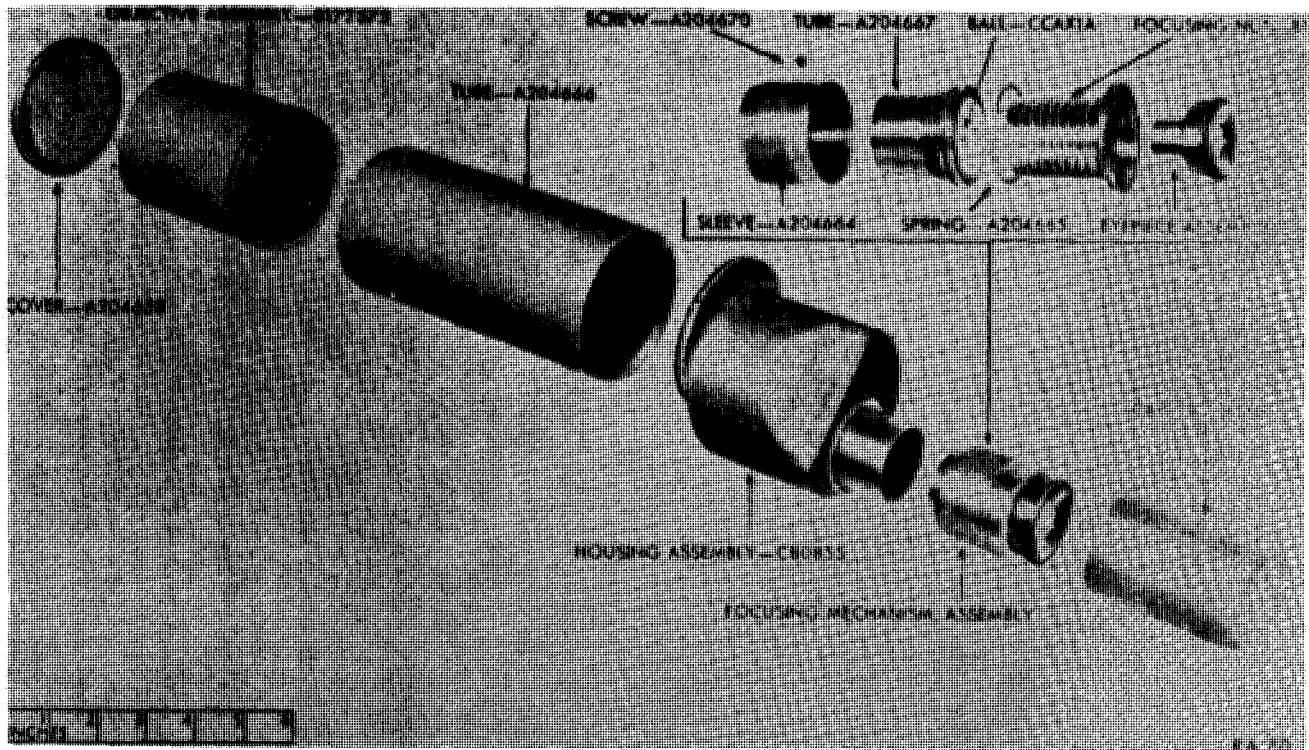
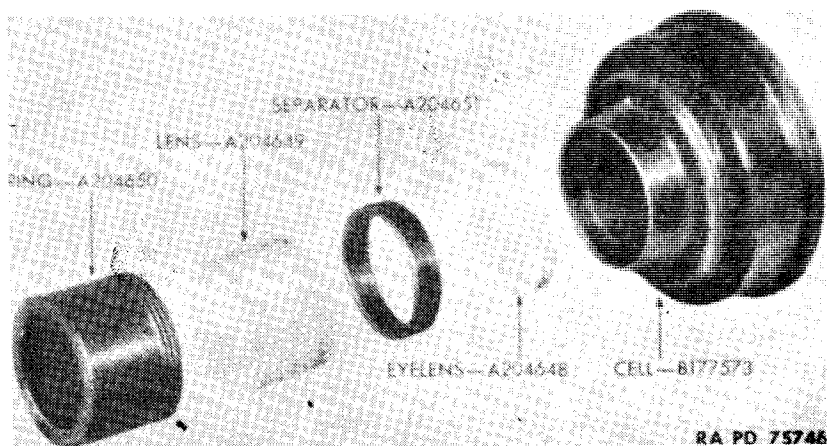
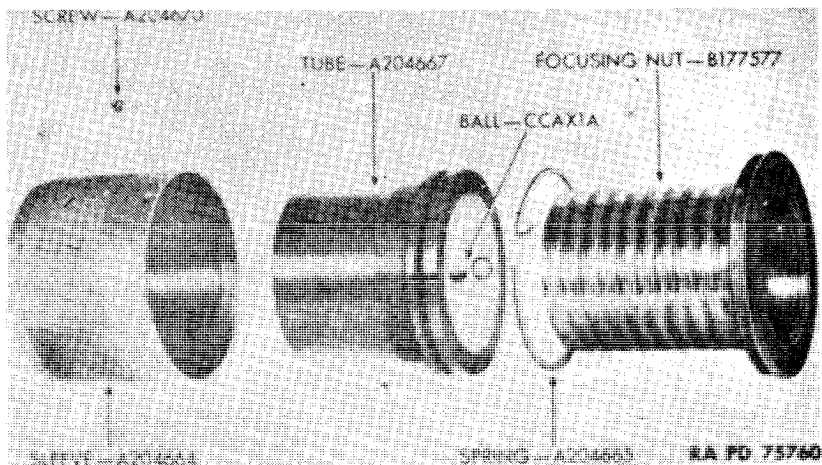
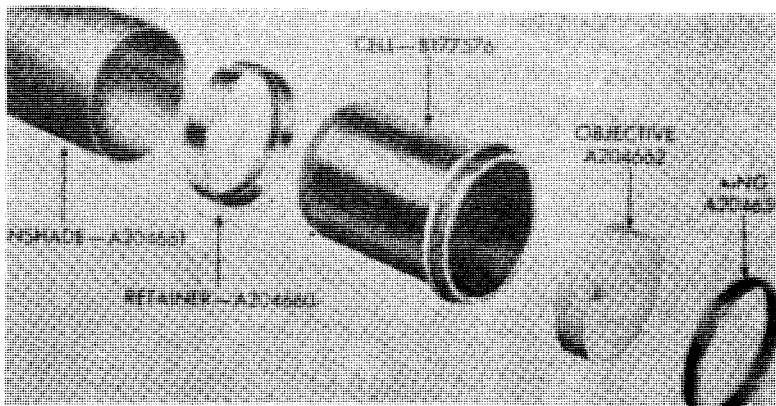

Figure 8—Observation Telescope M48—Partially Disassembled
Figure 9 - Observation Telescope M48-Eyepiece Assembly Disassembled
Figure 10 - Observation Telescope M48-Focusing Mechanism Assembly Partially Disassembled
Figure 13-Observation Telescope M48-Objective Assembly Disassembled
(1) Remove the eyepiece cover cap (fig. 8). Carefully unscrew the eyepiece assembly (fig. 8) and wrap it in clean tissue paper.
(2) Unscrew the focusing nut locking screw A204670 (fig. 8). Unscrew the eyepiece focusing nut sleeve A204664 (fig. 10) from the focusing nut. Unscrew the focusing nut from the eyepiece focusing nut tube A204667. Remove the ball and spring from its recess.
(3) Unscrew the focusing tube (fig. 8) from the prism housing. Slide off the focusing sleeve.
(1) Unscrew the retaining ring (fig. 9). See figure 8 for components of Observation Telescope M48.
(2) Hold the eyepiece assembly, with the field lens down, and gently tap around the edges of the cell to release the field lens. Repeat the procedure to free the eyelens, tapping more vigorously if necessary. NOTE: Be careful to hold the eyepiece assembly over a soft pad or piece of folded tissue when performing this operation. Do not permit the bare finger or table to come in contact with the polished surfaces of the lens. After removal, wrap the lens in lens tissue paper and store in a safe place.
(1) Remove focusing mechanism with eyepiece assembly from prism housing assembly (fig. 8).
(2) Unscrew the prism housing assembly (fig. 8) from the body tube.
(1) Unscrew the retainer (fig. 13) and remove the sunshade which slides over the objective cell.
(2) Unscrew the objective cell (fig. 13) from the body tube A204666 (fig. 8).
(3) Remove the retaining ring from the back of the objective cell and gently tap out the objective. *NOTE: Be sure to hold the cell over a tissue pad or other soft surface when performing this operation to prevent damage to the objective.* If the objective does not come out easily, crumple a piece of lens tissue paper into the cell and, with a piece of lens tissue paper between the thumb and the objective, gently push out the objective. Clean the lens immediately after removal, wrap carefully, and lay aside in a safe place until reassembly.
(1) Place the focusing sleeve in position so the crimped edge is next to the shoulder of the prism housing. Screw the focusing tube into position. Replace the ball spring A204665 on the tube. Place the ball CCAX1A in its recess (fig. 8).